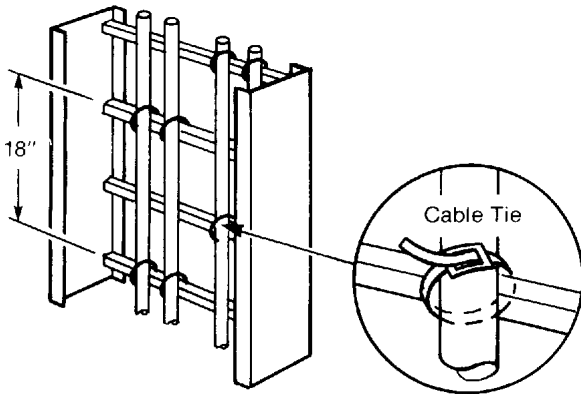

Figure 5.7
- a. Cables may be fastened to the cable tray by means of cable clamps or cable ties (See Figures 5.7 and 5.8). Generally, cables are fastened every 450 mm (18 in.) on vertical runs. Although not required by the NEC, single conductor cables can be fastened on horizontal runs to maintain spacing, prevent movement due to a fault current magnetic forces, and insure that the cable is confined within the cable fill area. When using cable clamps, the clamps should be sized correctly and only tightened enough to secure the cable without indenting the jacket. The same precaution should be observed with cable ties, and they should be applied with a pressure limiting device.